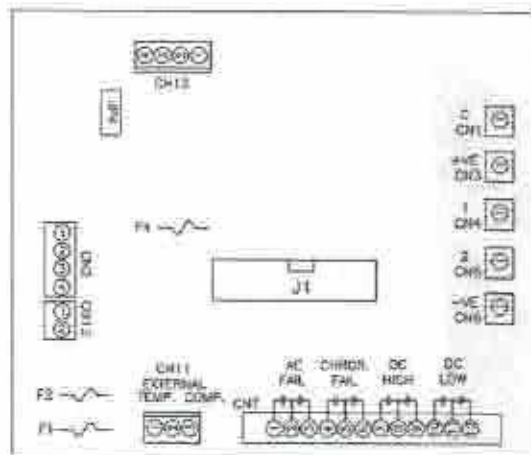
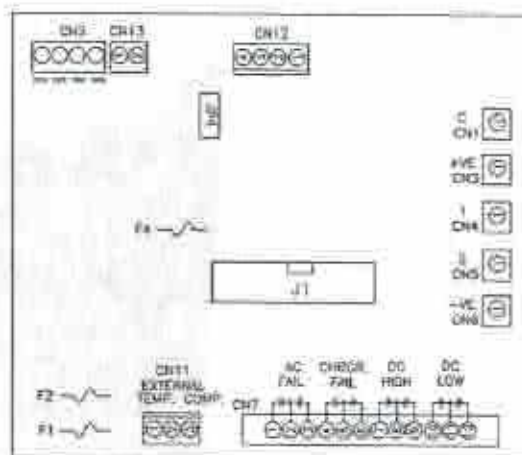

Figure 5 – S2A-349 Control/Alarm Board
Figure 6 – S2A-357 Control/Alarm Board
Various alarms are included as a standard feature of the ESCR. Only the following alarms include a set of form 'C' contacts: High DC Voltage, Low DC Voltage, Charger Failure, and AC Failure. Having contacts available enables the user to connect remote annunciators. The alarm contacts are rated for 10 Amps at 28VDC. Refer to Figures 5 & 6 for alarm contact connections.
**NOTE:** The alarm contacts for AC Fail alarm displayed in Figure 5 and Figure 6 are shown in de-energized state.